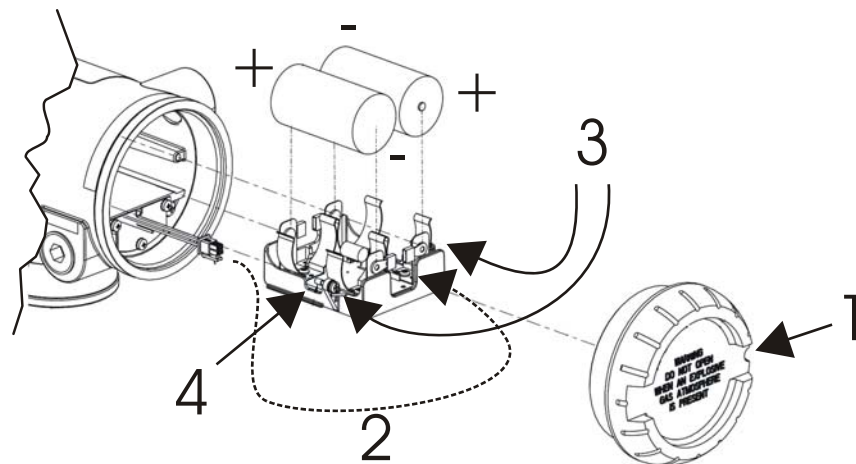

Figure 10 Battery replacement
1	Loosen the M3 locking set screw on the battery end-cap (opposite end from display). See item 1 in Figure 10. Unscrew and remove the end cap.
2	Using thumb and forefinger, squeeze the battery connector at top and bottom to disengage the locking mechanism, then pull to disconnect. See item 2 in Figure 10.
| 3    | Loosen the two battery holder retaining screws (closest to the batteries). See item 3 in Figure 10. The screws are captive.   |
| 5    | Remove the old batteries from the battery holder. If needed, pry out the batteries by using a slotted screwdriver as a lever in the holder's side slots. See item 4 in Figure 10. |